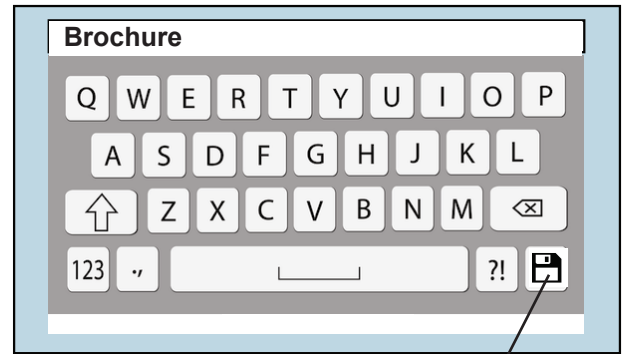

Fig. 20
5. Key in the name of the job (Fig. 20) and press the save icon in the bottom right corner.